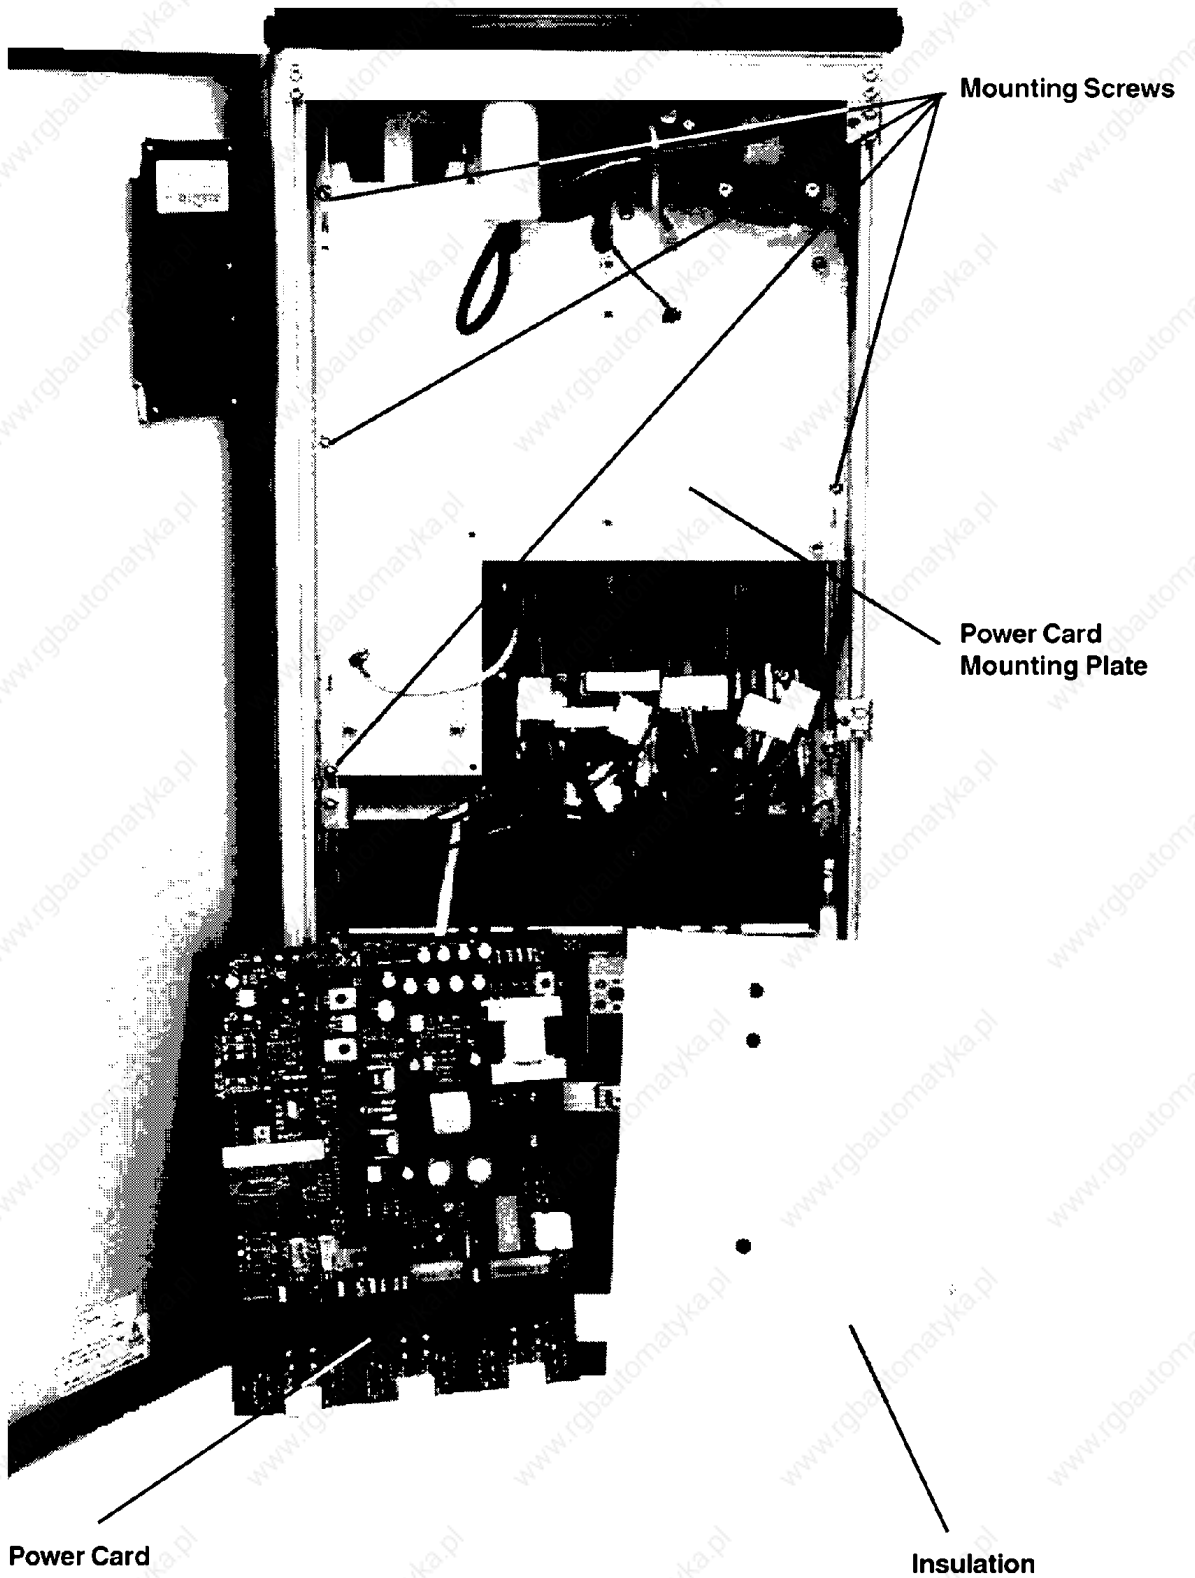

Figure 15: Power Card Mounting Plate Removal
4. Remove five (5) mounting screws from power card mounting plate and remove plate (see Figure 15).